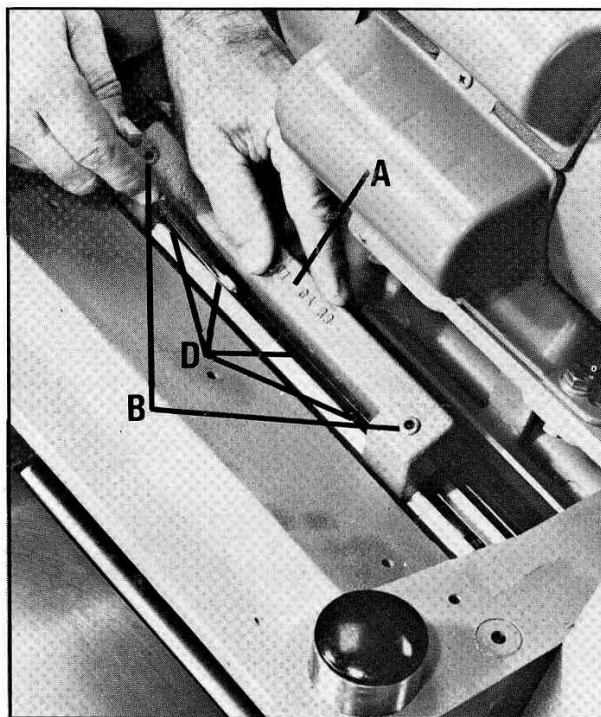

Fig. 49
A. Check all three knives for proper setting using the knife gage as shown in Fig. 49. When the gage (A) is placed on the cutterhead as shown, the knife should just contact the bottom of both set screws (B) Fig. 49.
B. If any of the knives require an adjustment, slightly loosen the knife locking bar of each of the three knives by turning the locking screws (D) Fig. 49, into the locking bar just enough to relieve stress in the cutterhead but not disturb the setting of the three knives.
C. To adjust the knife that must be reset, loosen all four locking screws (D) Fig. 49, by turning them into the locking bar. As the knife locking bar becomes loose, lifter springs under the knife will raise the knife until it contacts the bottom of both set screws (B) of the gage. Then snug up the knife locking bar by lightly backing out the four locking screws (D) against the knife slot. **IMPORTANT: AT THIS TIME, ONLY TIGHTEN THE KNIFE INTO THE SLOT ENOUGH TO HOLD IT IN POSITION.**
E. After all three knives are set with screws just snug, back out and tighten the four locking screws (D) Fig. 49, against the slot, starting with the end screws first, then the center screws until the knife is securely held in the cutterhead. Tighten the remaining two knives in the same manner.
A. To remove each knife, loosen the knife locking bar, by turning the four locking screws (D) Fig. 49, into the knife locking bar and remove the locking bar, knife and springs located under the knife.
E. Insert springs, knives and knife locking bars into all three slots in the cutterhead. Back out locking screws (D) Fig. 49, just enough to hold all three knives in the cutterhead.